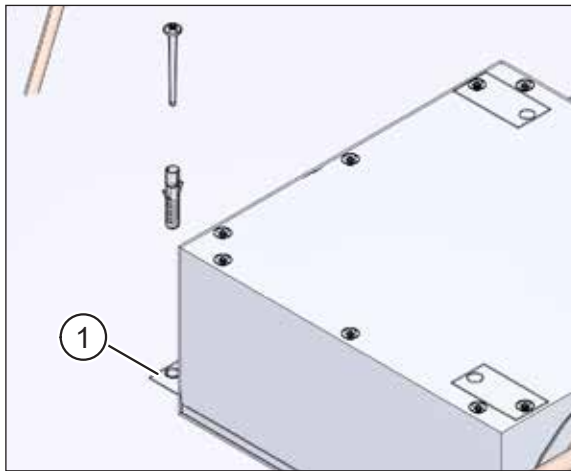
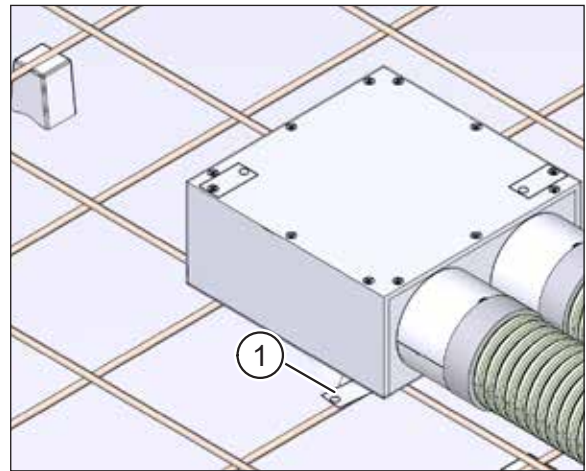

Fig. 17: Fixing the sheet steel ceiling box to filigree slab
Fig. 18: Fixing the sheet steel ceiling box to in-situ concrete slab
- Fig. 17: fixing on the filigree slab
- Fig. 18: fixing flush with the formwork for the in-situ concrete slab (e.g. with cable ties or wire)
- ▶ The sheet steel ceiling box can also be fixed to the fold-out retaining tabs (item 1 in Fig. 17 and Fig. 18).